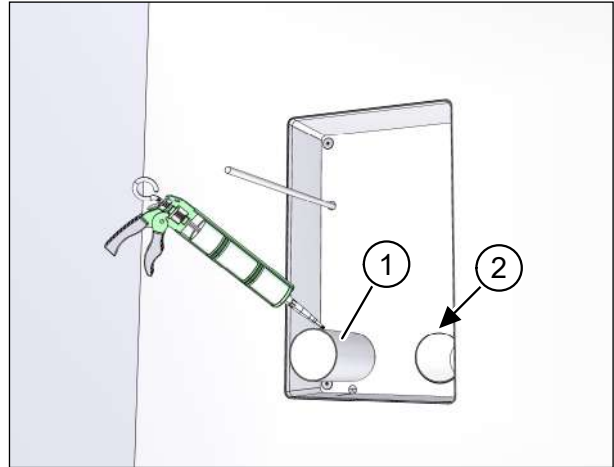

Fig. 41: Inserting and fixing the ventilation pipes
- ▶ Apply permanently elastic sealant to the outer skin of the ventilation pipes (item 1 in Fig. 41).
- ▶ Using a twisting motion, push the two ventilation pipes into the openings in the installation kit until they end flush with the inside of the installation kit (item 2 in Fig. 41).